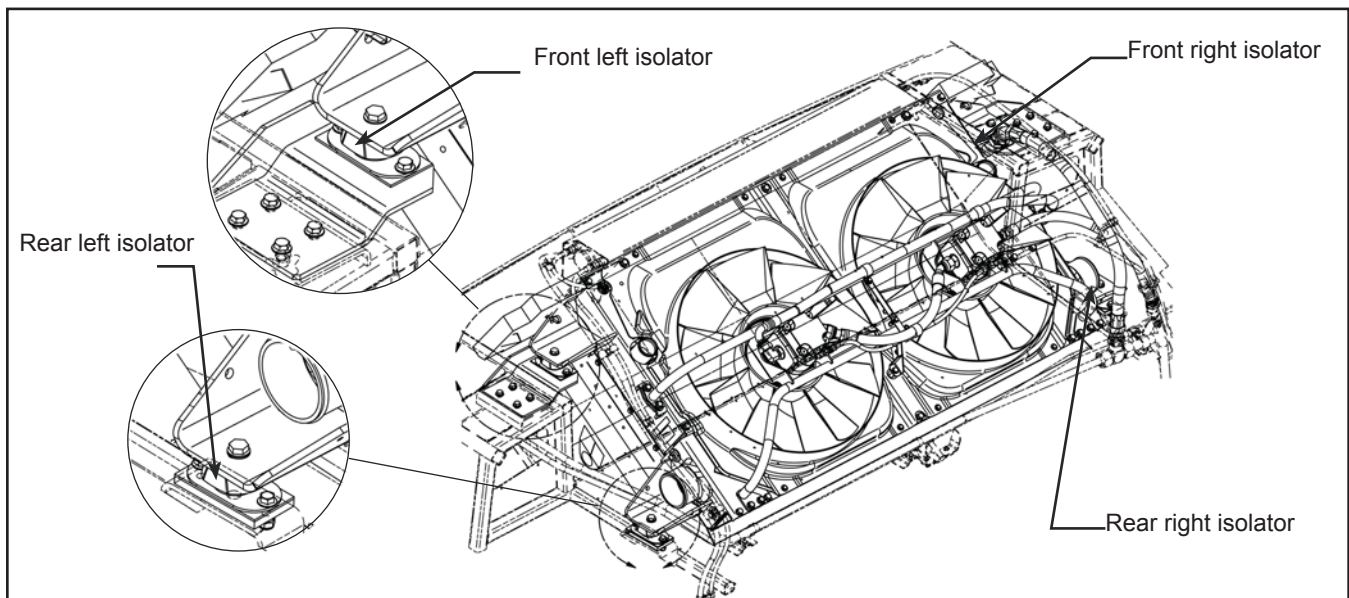

Figure 2 - Isolators Identification
- 1.12. Remove the isolators from the support. Retain the hardware. See Figure 2